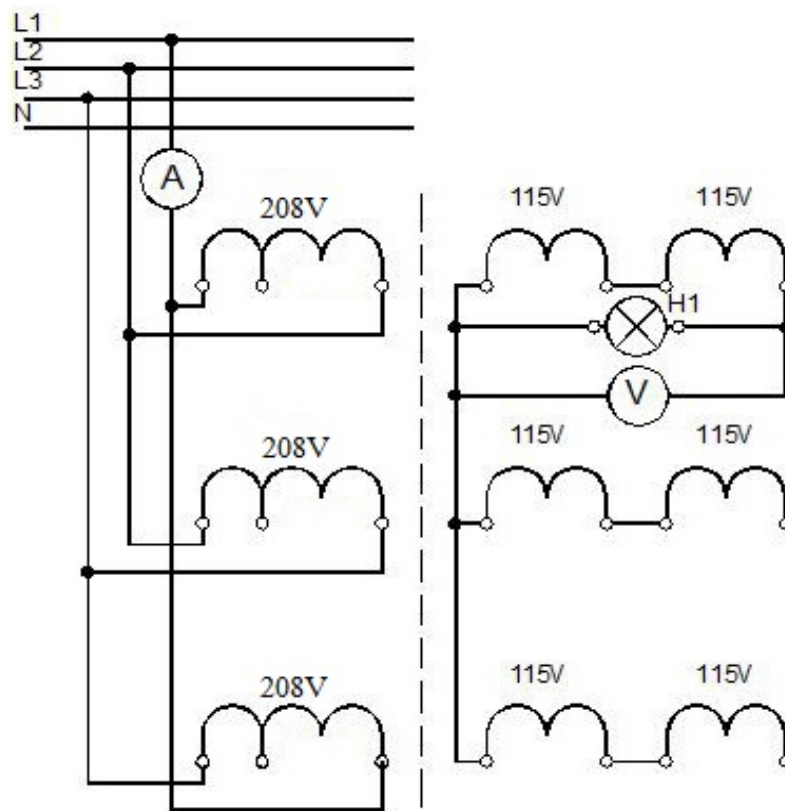

Figure 14:
1. Wire up the circuit in accordance with the set-up and wiring diagram of Figure 14.